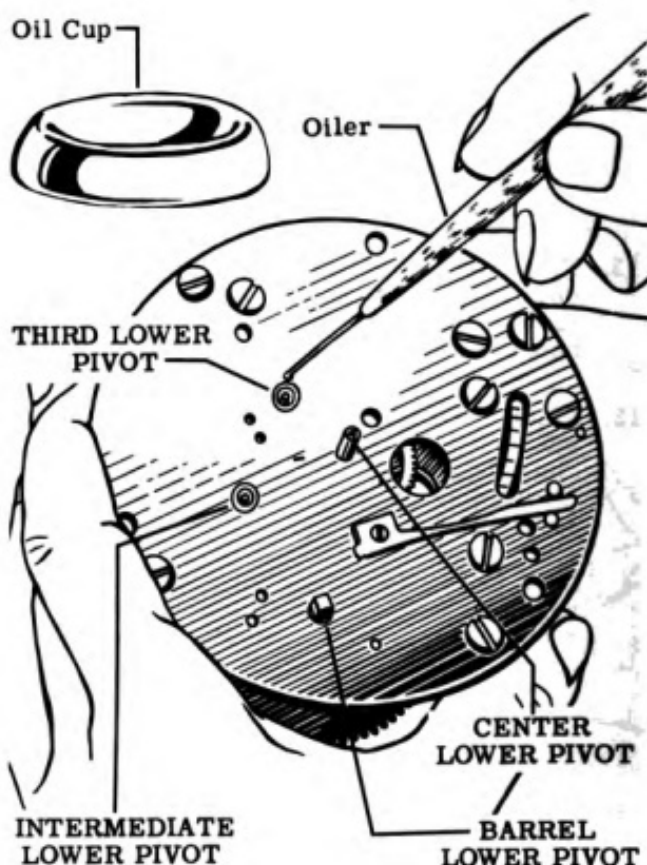

Figure 68
22. Turn the movement over so it is dial side up in the work block. Oil the center lower, the barrel lower, the third lower and the intermediate lower pivots. These points are shown in Fig. 68. See the Control Manual.